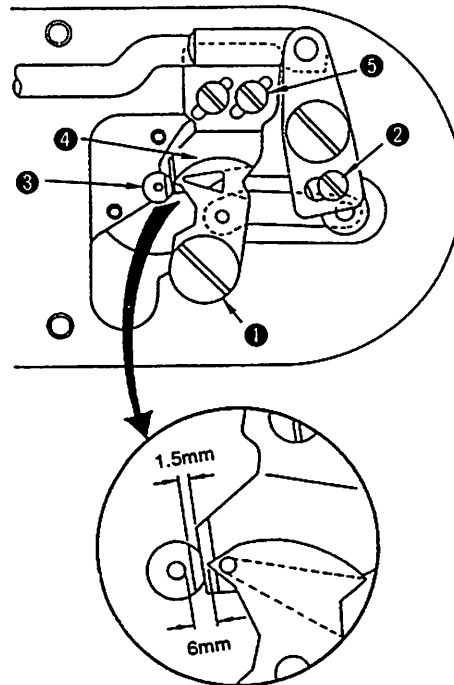

Fig. 5-13-1
(14) Height of the moving knife and the counter knife
- The thread trimmer which consists of a moving knife and counter knife should successfully cut a pair of #80 thread and another pair of #5 thread when the throat plate is removed and the thread rimming lever is manually actuated. (Fig. 5-13-1) (S, H type)